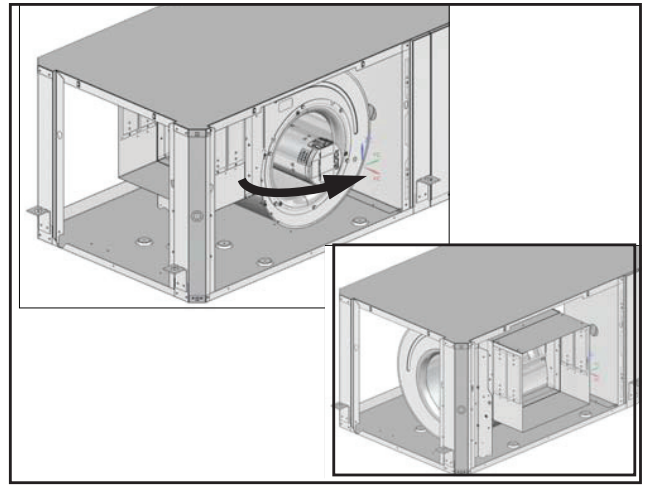

Fig. 47 - Rotate Blower into New Position
7. Rotate blower into its new position. See Fig. 47.